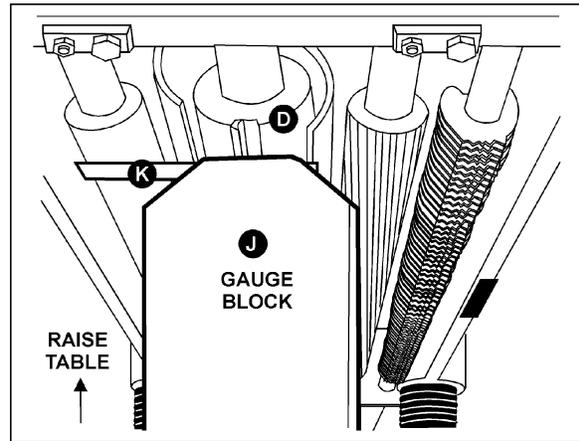

Figure 26
3. Place the gauge block (J, Figure 26) on the table directly beneath the cutterhead (D, Figure 26).
4. Using a 0.032" (0.81mm) feeler gauge (K, Figure 26) placed on top of the gauge block, raise the work table until the knife just touches the feeler gauge when the knife is at its lowest point. Do not move the work table any further until the outfeed roller is adjusted.